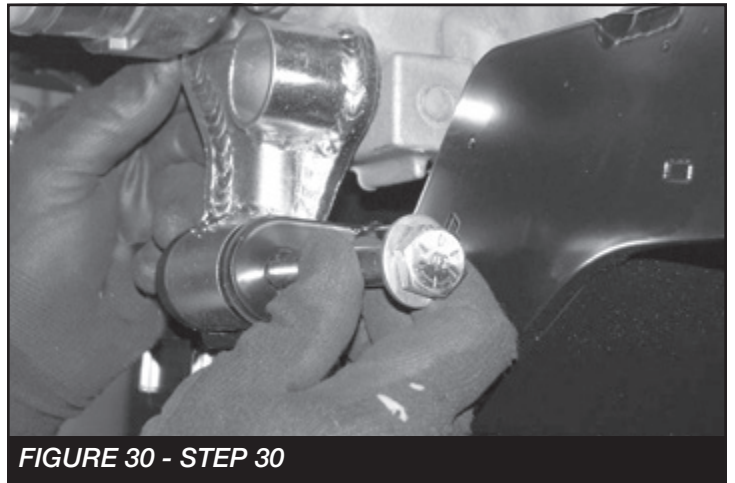

FIGURE 30 - STEP 30
30. Install the rear diff bracket into the tabs on the rear crossmember using a 1/2-13x4" bolt, washers, and nut. **SEE FIGURE 30**